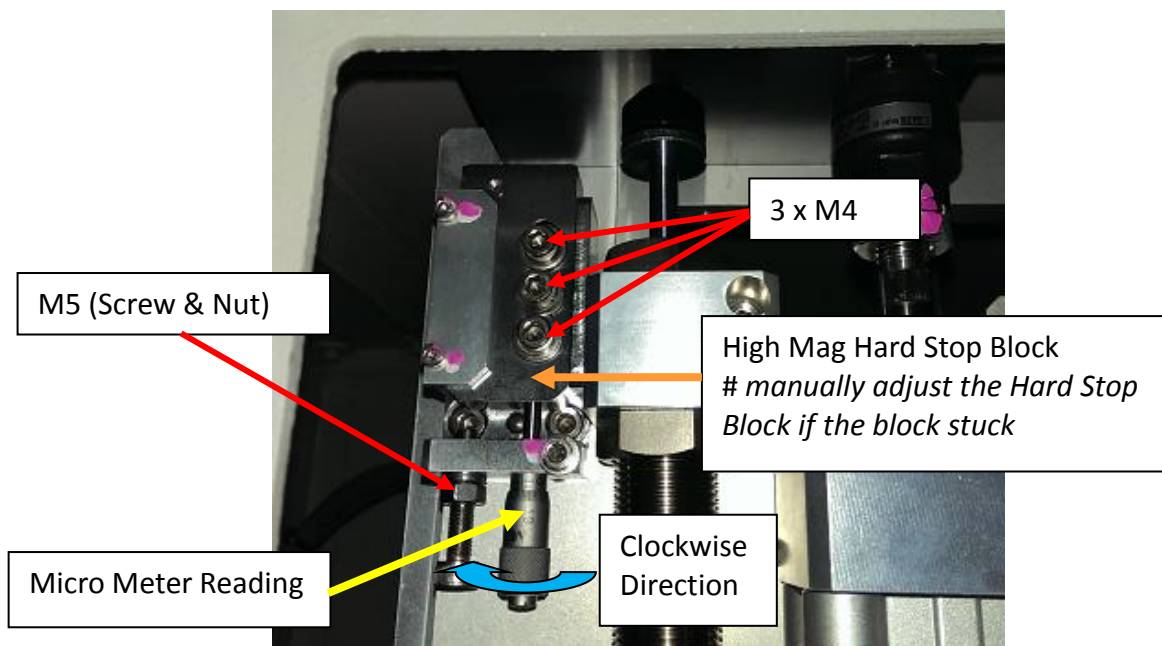

Figure 24
29. Loosen 3 x Hard stop Block Screw (M4) and the Hard Stop Support Screw & Nut (M5) as Figure 24.